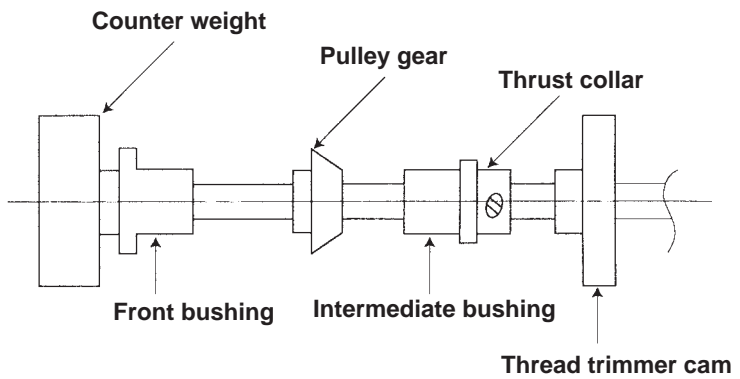

Fig. 3
1. Fit timing belt ❶ inside the machine head.
2. When fitting main shaft ❷, insert thread trimmer cam ❸, thrust collar ❹ and hand pulley gear ❺ into the main shaft.
**(Caution)** At this time, fit the timing belt around the main shaft as shown in Fig. 2. Insert the parts in the order as shown in Fig. 3.